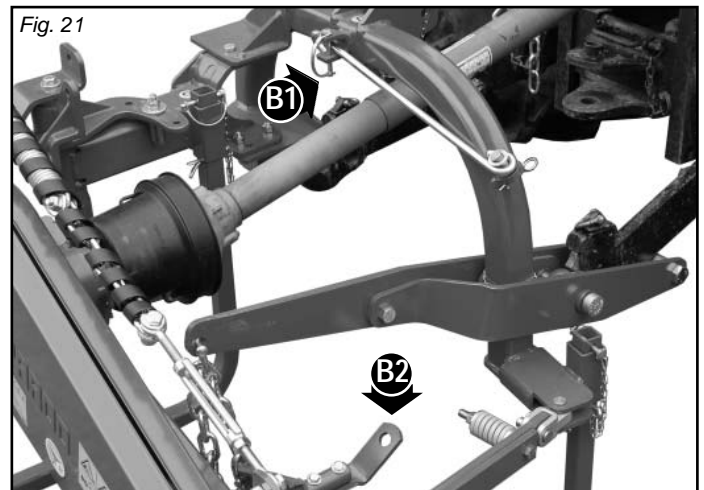

Fig. 21
- Remove safety hook (B1, Fig. 21), required only for transportation, and fit it back in the slot positioned above the chassis.